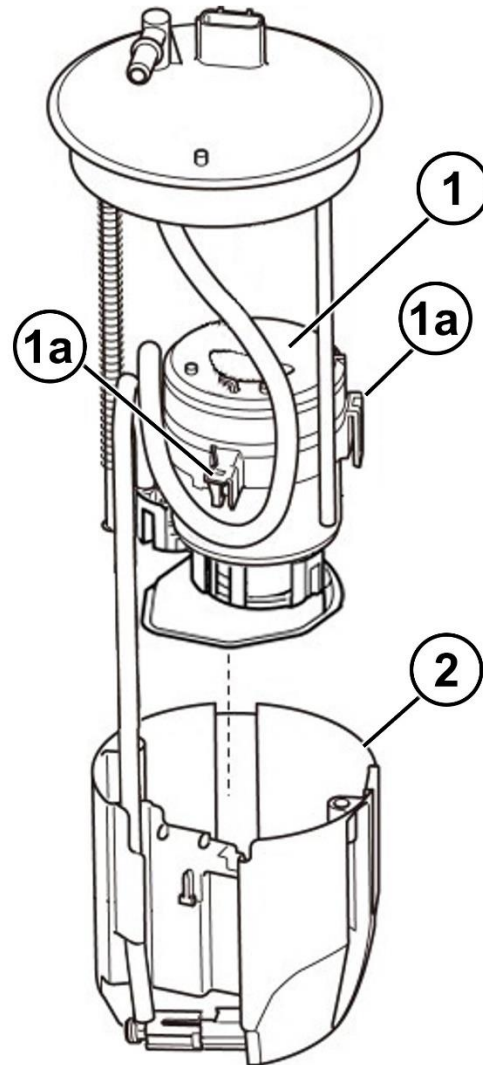

Figure 27 – Module Housing Retainers
56. Lift the three tabs (1a) releasing the fuel delivery module upper housing (1) from the fuel delivery module lower housing (2) (Figure 27).
57. Separate the upper module housing assembly (1) from the lower module housing (2) (Figure 27).
5. Assemble the fuel delivery module upper housing (1) to the fuel delivery module lower housing (2) then secure with the tabs (1a) (Figure 27).